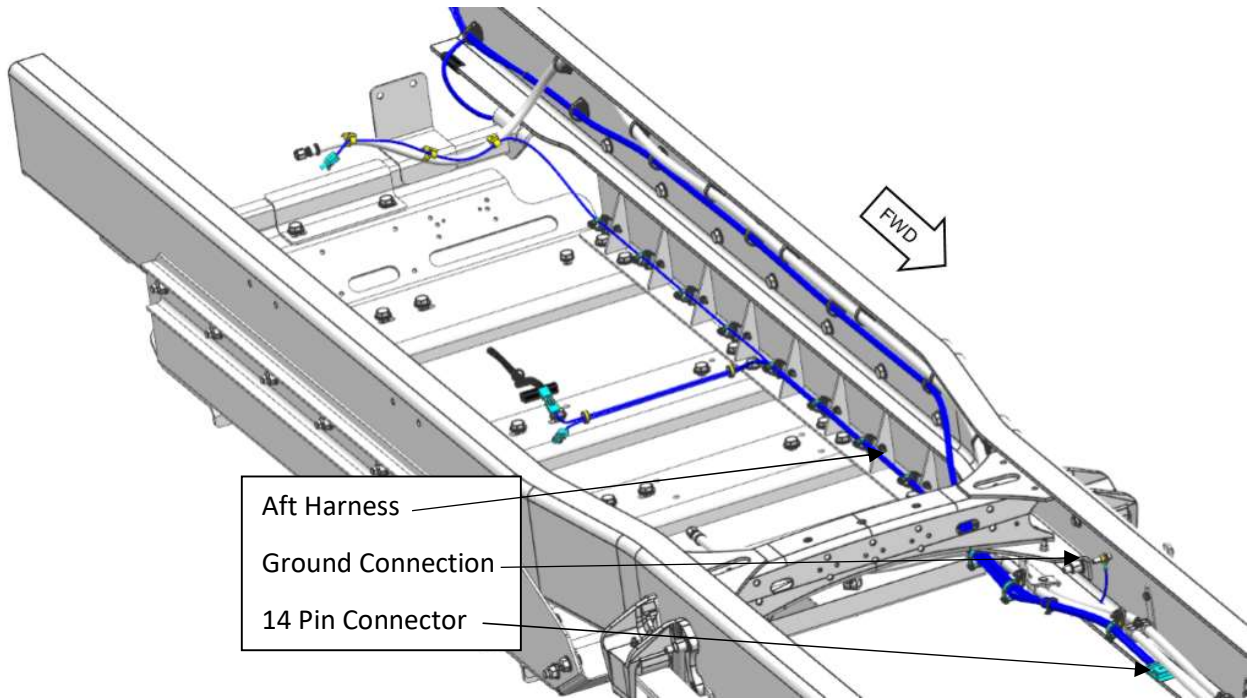

Figure 2
3. Disconnect ground wire from frame near rear driver's side air bag. Disconnect 14-pin connector above rear axle. See Figure 2